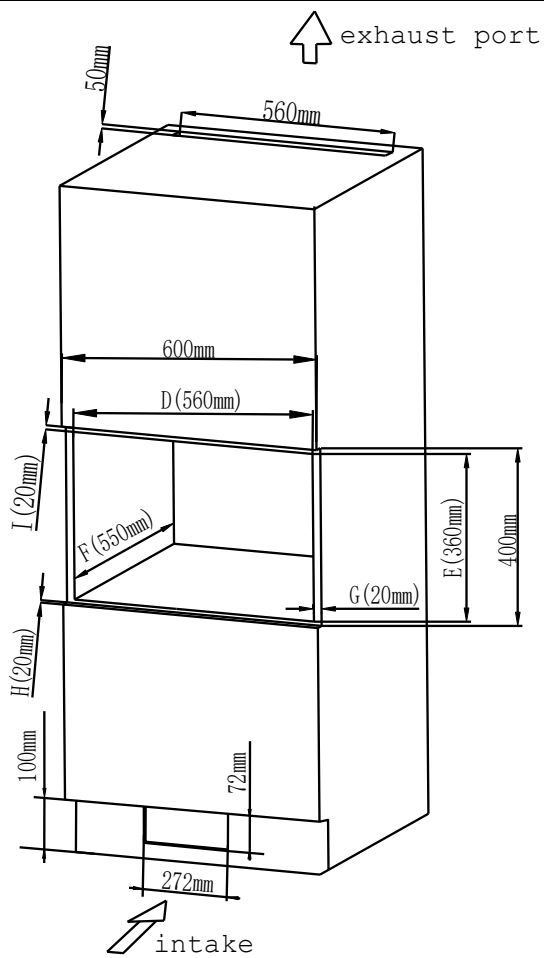

Fig. 5
Opening size: (D)560±2 x (E)360±2 x (F)550±2 (mm) as shown in Fig. 5 “D”, “E”, “F”.